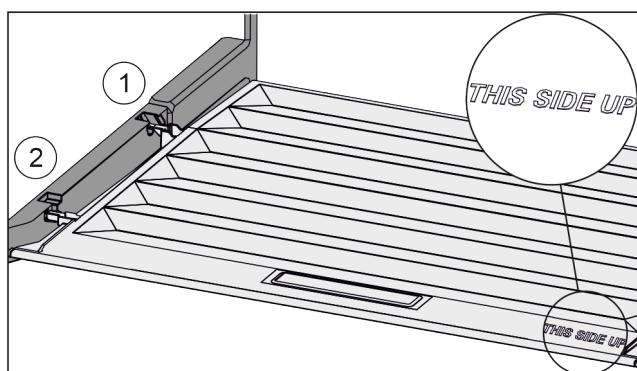

Fig. 44
- Insert the lip of the cover over the opening of the rear bracket Fig. 44 (1) and click into place Fig. 44 (2).